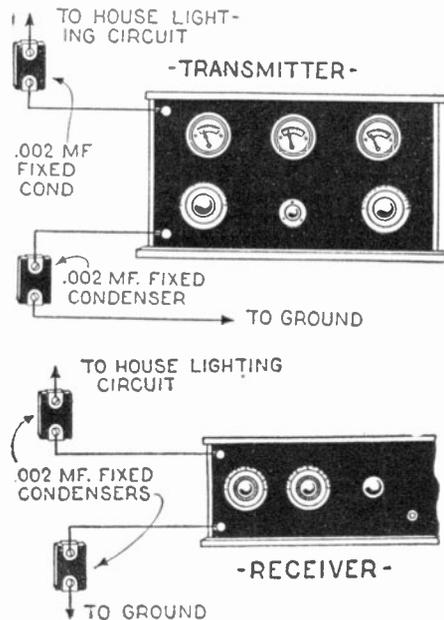

Fig. 143. Two circuit diagrams for experimental wired wireless, both transmitting and receiving, are given above.
A. 1. Wired wireless is the transmission of radio-voice messages over power lines. The ordinary transmitting and receiving set may be made use of in connection with this method of transmission and reception. The circuit used with wired wireless is given in Fig. 143. Condensers are placed in the aerial and ground leads of both the transmitter and receiver in order to prevent any catastrophe to the tubes or power lines.